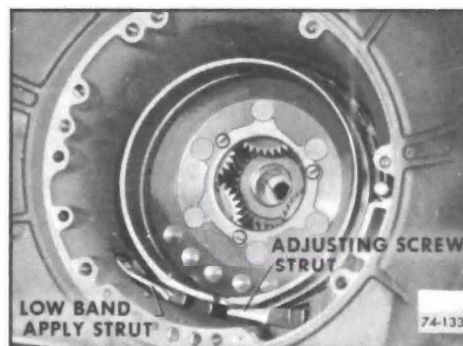

Figure 74-133
1. Remove low band, apply strut and adjusting screw from inside case. See Figure 74-133.